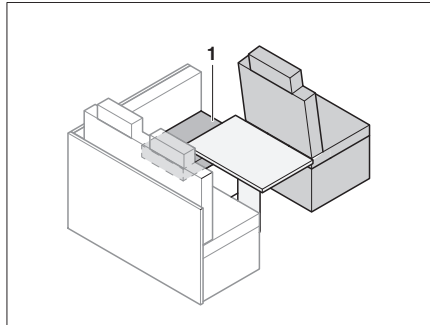

Fig. 180 Prior to conversion
- Lay the seat cushion (Fig. 180,1) to the side.